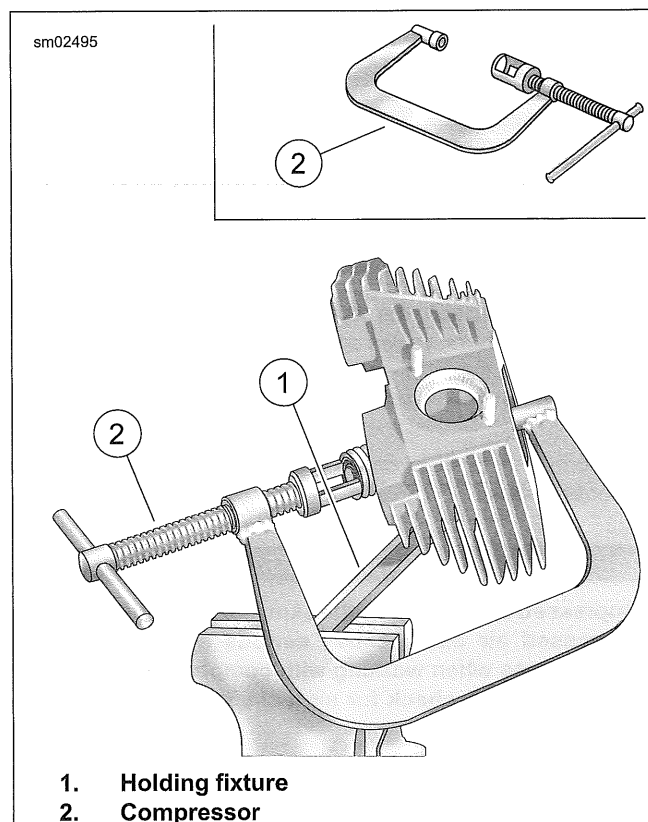

Figure 4-31. Valve Spring Compressor
- a. See Figure 4-31. Use VALVE SPRING COMPRESSOR (PART NUMBER: HD-34736-B) to compress valve spring.
- b. Remove tapered keepers (1).
- d. Remove the spring retainer (2) and valve spring (3).
- e. Remove the valve (11).
6. Remove and discard valve stem seal assembly (4).